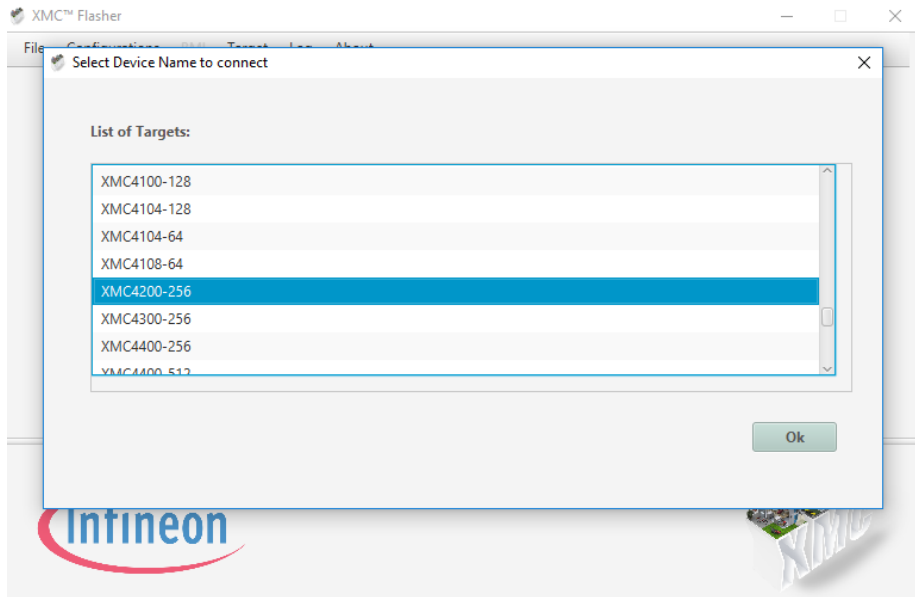

Figure 8. XMCFlasher Device Selection Window
**Step 6.** With the OPS241/OPS242 connected to the PC, press the Connect button on XMCFlasher. A pop-up window like that in Figure 8 will appear. Scroll down and select the XMC4200-256 and press Ok.